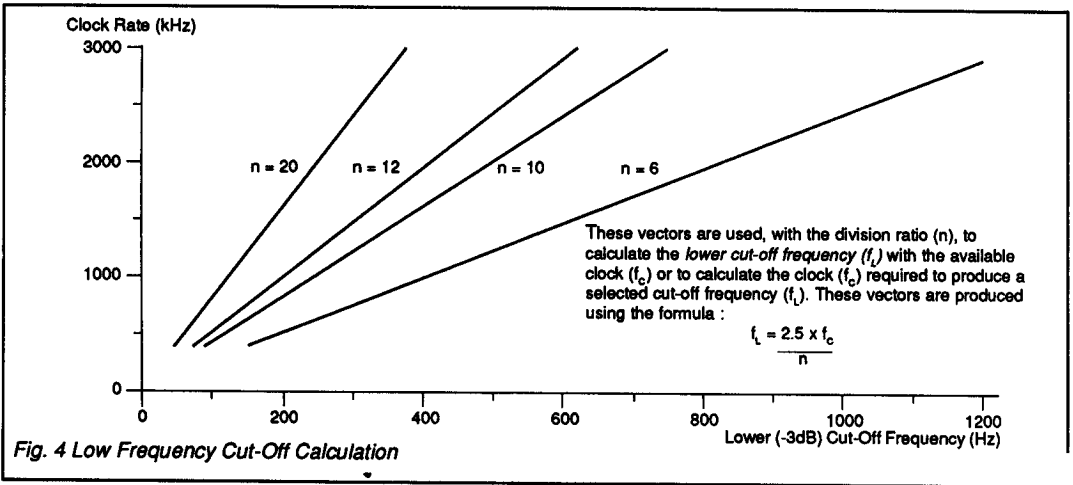

Fig. 4 Low Frequency Cut-Off Calculation
3. Xtal/clock frequencies are dependant upon required filter responses - Table 1, Figures 4 and 5.
1. These frequency limits are those at which the High or Low cut-off frequencies are in accordance with the formulas described in Figures 4 and 5.